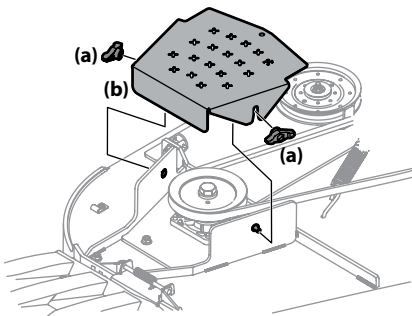

Figure 4-20
2. Remove the wing knobs securing the belt covers to the deck. See Figure 4-20.
6. Place the belt around the idler pulleys removed in step 3 with the 'V' side facing in. Once in place, reinstall all the hardware and tighten the flange lock nut to secure the assembly. See Figure 4-20.
7. Route the belt as shown in Figure 4-20 and then reinstall the deck. Refer to "Deck Installation" on page 23.